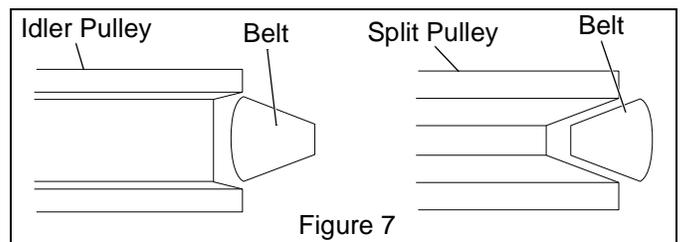

Figure 7
**IMPORTANT:** Ensure flat side of V-belt contacts idler pulley and the V-side of V-belt contacts split pulley as shown in Figure 7.